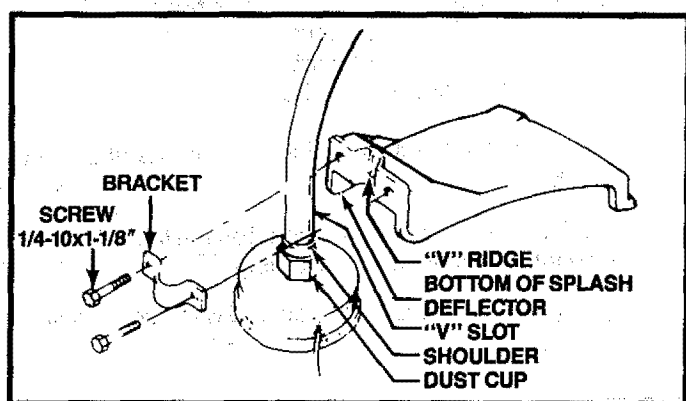

Figure 4
3. SPLASH DEFLECTOR — Figure 4
- a. Locate the raised "V" ridge on the splash deflector into the indented "V" slot on the drive shaft housing. Figure 4.
- d. Install the bracket and screws as shown in Figure 4.